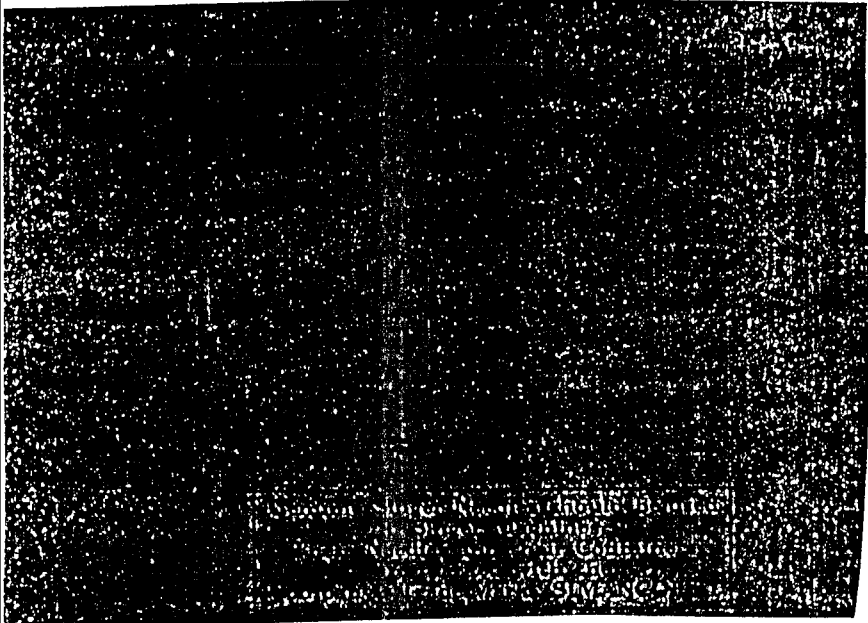

Fig. 13
In case the needle bar is not correctly set, loosen the needle bar connecting stud pinch screw (E, Fig. 13) and place the needle bar in correct position as directed above, then retighten the screw (E).
The distance between the vibrating presser bar and lifting presser bar, after turning the feed regulating spindle head so that there is no feed movement of the needle bar, should be  $\frac{3}{8}$  inch, as shown in Fig. 13.